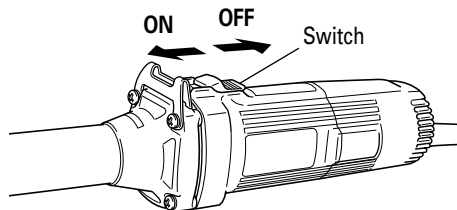

Fig. 5
1. Switching operation (Fig. 5)